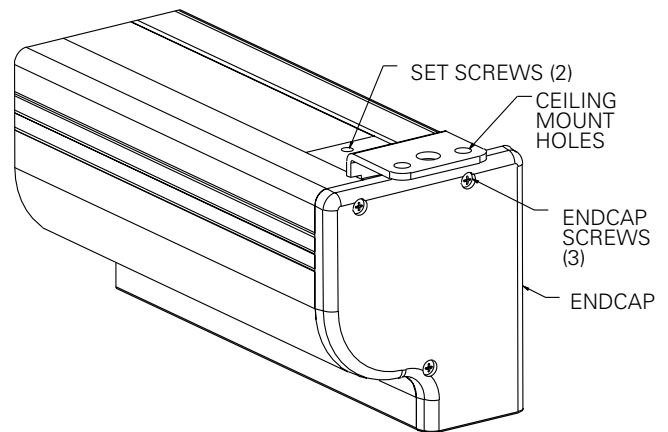

FIGURE 2
3. The top of the screen case has a channel that the ceiling mount brackets slide into. Remove the end cap on the right end of the case and insert the brackets into the case channel. Lock the brackets in place by tightening two set screws. Refer to figure 2. Mount can not be more than 12" from end of case.